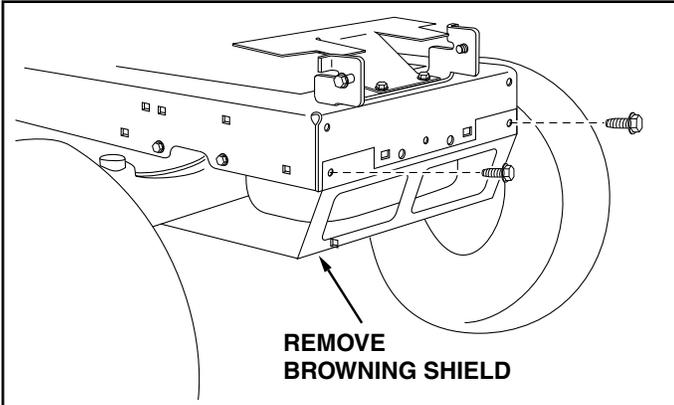

FIGURE 2
STEP 2: (SEE FIGURE 2)
- Reinstall the browning shield removed in figure 2.